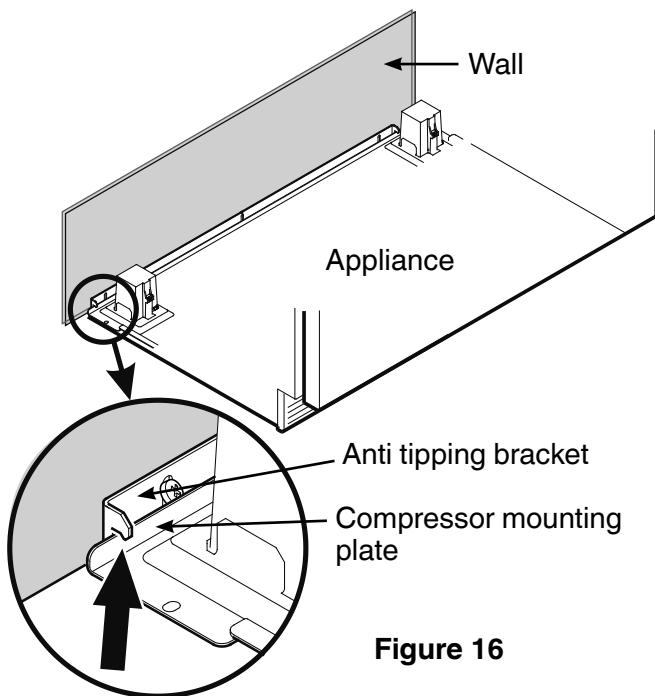

Figure 16
4. Push the appliance slowly to the back wall until the compressor mounting plate makes contact with the anti-tipping bracket (Figure 16).
To prevent the appliance from tipping forward the compressor mounting plate must have contact with the anti tipping bracket (Figure 16).